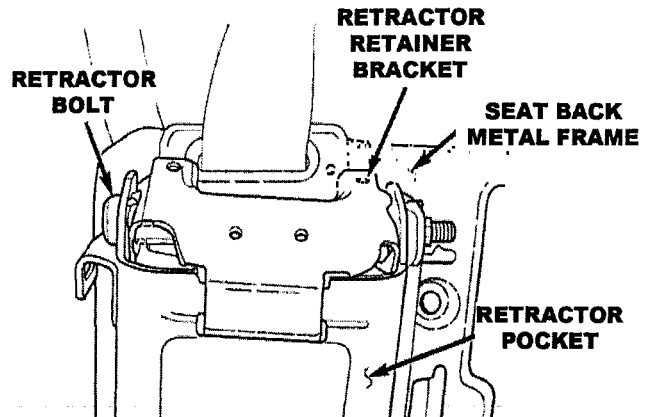

Figure 6 Seat Back Front View
- 24. Remove the retractor bolt that secures the retractor retainer bracket to the top of the retractor pocket on the front upper outboard corner of the seat back frame (Figure 6).
- 25. Remove the retractor retainer bracket from the top of the retractor pocket on the seat back frame (Figure 6).
31. Position the retractor retainer bracket over the top of the retractor pocket on the front upper outboard corner of the seat back frame (Figure 6).
32. Install and tighten the retractor bolt that secures the retainer bracket to the top of the retractor pocket on the seat back frame. Tighten the bolt to 32 ft-lbs (43 N·m) (Figure 6).